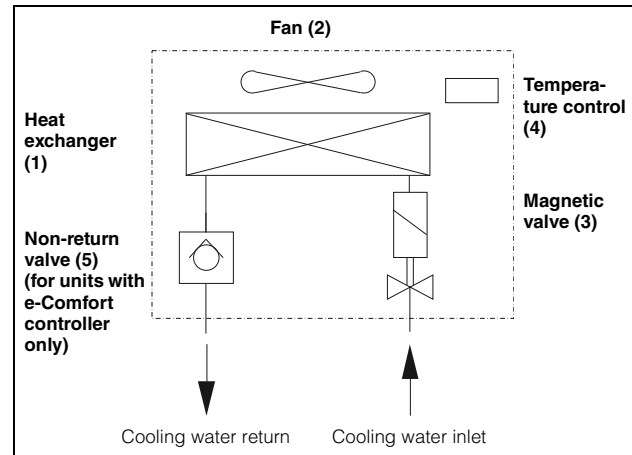

Fig. 2: Air/water heat exchanger
The air/water heat exchanger comprises of the following main components (cf. fig. 2): Heat exchanger package (1), fan (2), magnetic valve (3), temperature control (4) and non-return valve (5).